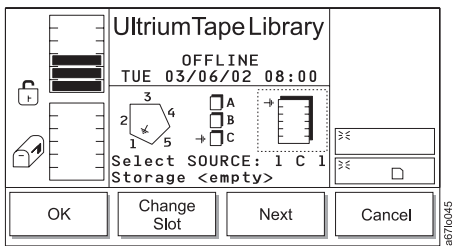

Figure 4-144. Change Slot Dialog
- b. Press the button below the **Change Magazine** softkey until the arrow in the middle icon points to the magazine that you want. Press the **Next** softkey. The Change Slot Dialog displays (see Figure 4-144).